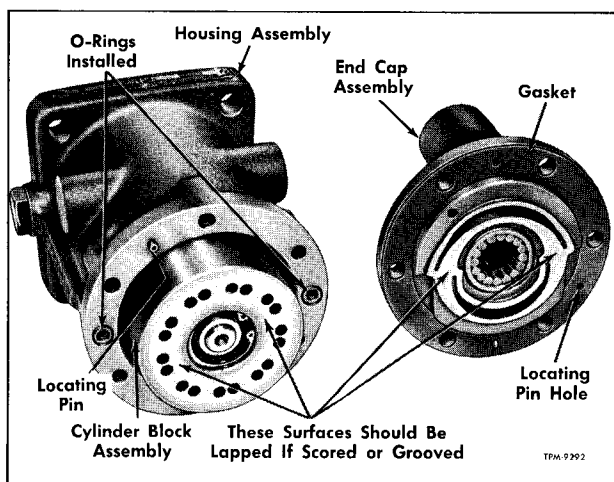
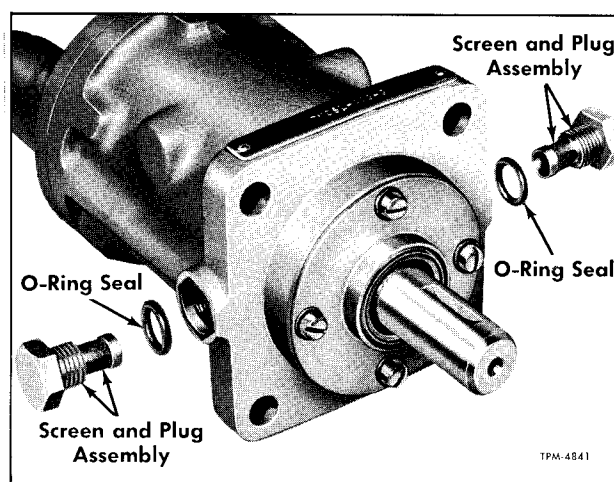
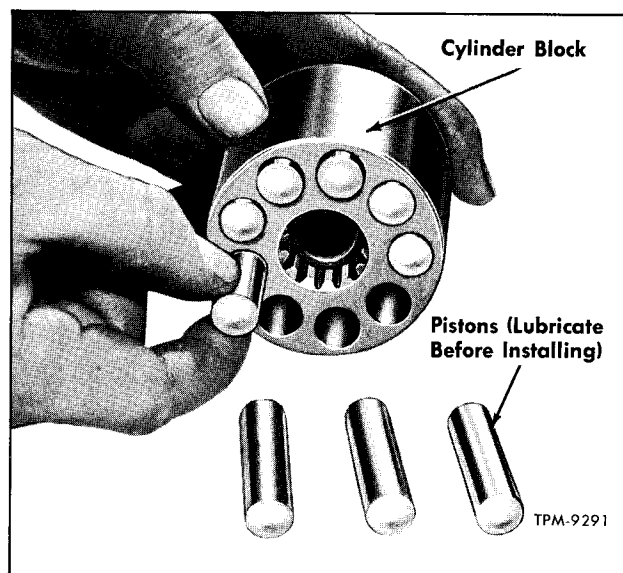

Figure 53—Motor End Cap Assembly Removed
Figure 54—Motor Oil Strainer Plugs and Screens Removed
Figure 57—Installing Motor Pistons
1. Place motor with shaft downward in a vise, then remove six screws (2) (using 3/16" hex-wrench) which attach end cap assembly (1) to motor housing (4). Carefully lift end cap from motor housing. **DO NOT SCUFF OR DAMAGE SEALING SURFACES OF CAP OR CYLINDER BLOCK.** Figure 53 shows end cap assembly separated from housing.
2. Remove end cap gasket (3) and two small O-rings from recesses in housing at fluid passages. See figure 53 which shows rings installed.
4. Using a Tru-Arc pliers, remove retainer ring (18) and tension spring (17) from cylinder block.
5. Referring to figure 54, remove oil strainer plug and screen assemblies from sides of motor housing.
5. After cleaning pistons (5) lubricate, then install in cylinder block (16) as shown in figure 57.
6. Assemble complete cylinder block assembly into the housing, turning the motor shaft (9) to engage the spline arrangement.
7. Align new gasket (3) onto housing face using holes for line up.
8. Clean and inspect the two small O-rings and insert into recess on housing face (see fig. 53). Check to see if check valve assembly is in place in the outlet part of end cap assembly. Install end cap (1) using guide pin in face of housing for proper line-up.
9. Assemble seal components (8) over shaft and into housing recess as described previously under "Motor Shaft Seal Replacement."
10. Clean oil strainer plug and screen assemblies, then with O-ring on each plug, install plugs in sides of pump housing. See figure 54.